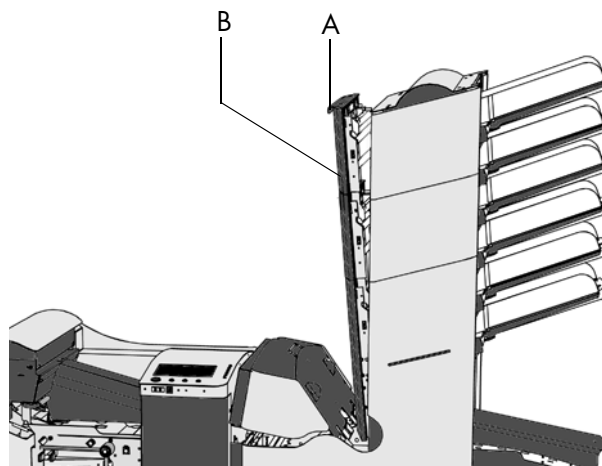

Fig. 4
- pull the hand grip A (fig. 4) upward to open the vertical transport cover B (fig. 4).